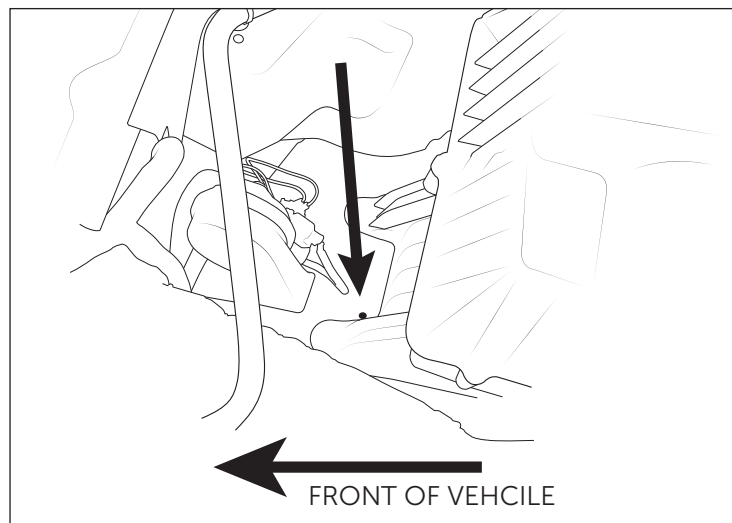

Figure 13
3. Install supplied bolt through the tab at the bottom of the bracket into the existing hole shown and secure with supplied flange nut (fig. 13). NOTE: Some vehicles may have plastic clip that will need to be removed.